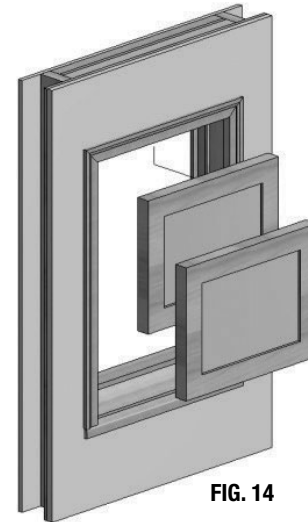

FIG. 14
- B) Remove existing sash from frame. (Fig. 14)